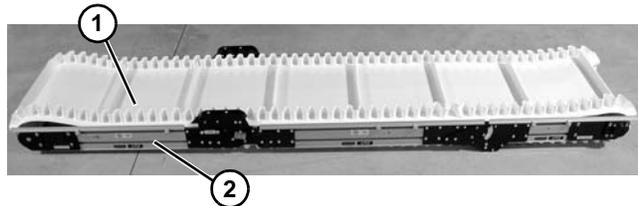

Figure 10
- Slide belt (**Figure 10, item 1**) over assembled conveyor sections (**Figure 10, item 2**).